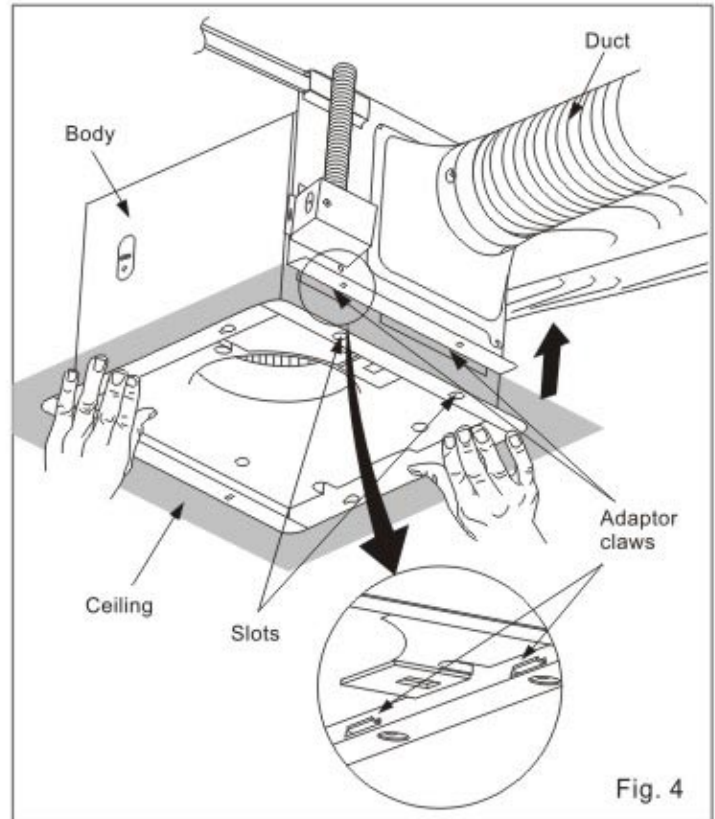

Fig. 4
7. Insert fan body into ceiling. (Fig.4)
4. Insert fan body (without blower section) into ceiling. (Fig.4)